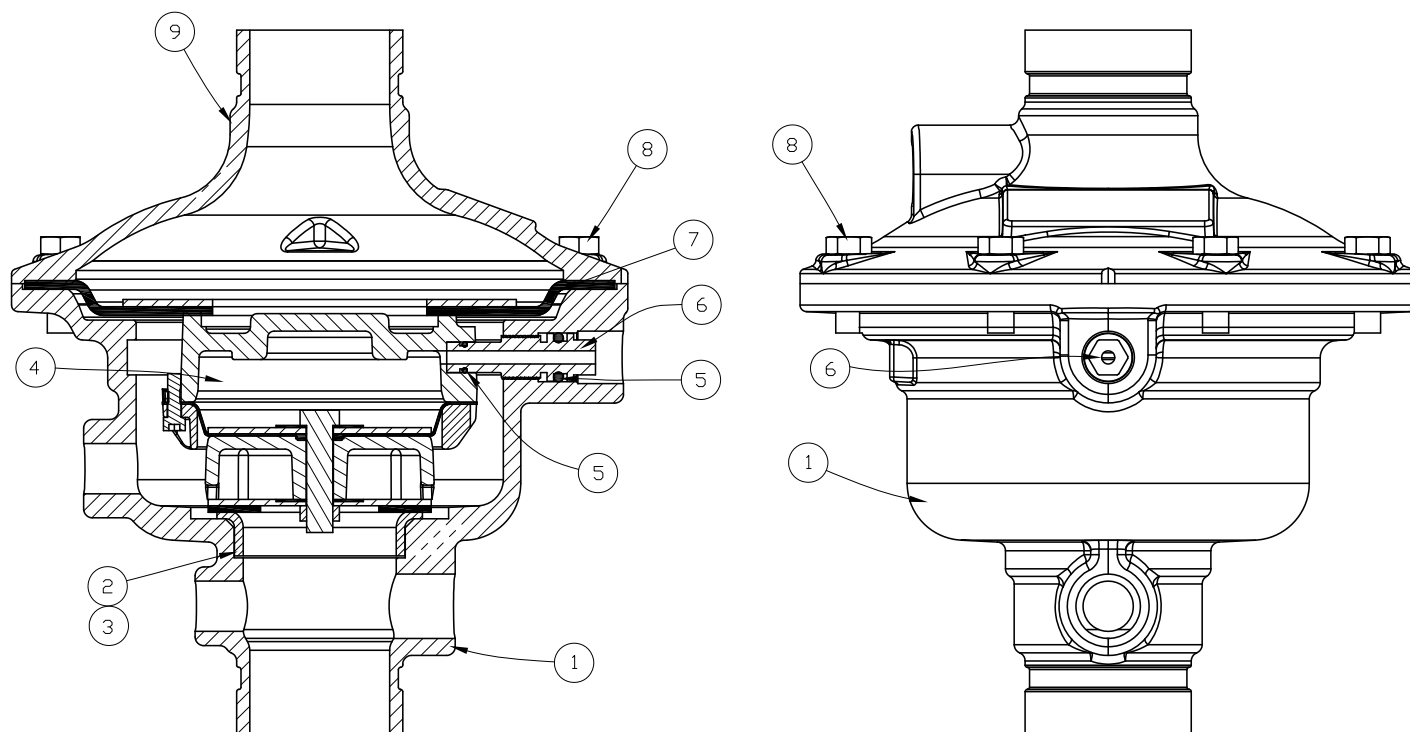

Figure 11 - Model G-2000P Valve Components List/Replacement Parts
5. Remove the 8 cover screws (8).
6. The cover (9) and trim that is still connected may now be removed from the valve body. (It may be necessary to pry the valve open as the diaphragm may bond itself to the cover (9) and body over time.)
C. Removing / Replacing the Check Diaphragm: (Refer to Figure 11)
1. The check diaphragm (7) may be lifted from the valve body (1).
2. If necessary, replace the check diaphragm (7).
D. Inspecting the Prime Chamber and Coupling for Leaks: (Refer to Figure 11)
E. Removing / Replacing the Prime Coupling: (Refer to Figure 11)
2. Using a wrench on the flats of the coupling (6), remove the coupling (6) from the valve body (1).
3. Inspect the coupling (6) and O-rings. Replace if necessary, using the instructions in O-Ring Replacement Bulletin F_120611.
F. Removing / Replacing the Prime Chamber Assembly: (Refer to Figure 11)
1. The prime chamber assembly (4) is now held in place by two flanges on the outside diameter of the assembly. Slide the prime chamber assembly (4) toward the prime line and remove from the body.
G. Re-Assembling the Valve: (Refer to Figure 11)
1. Place the prime chamber assembly (4) in the valve body (1). Make sure the two flanges are positioned in the groove.
2. Thread the prime coupling (6) into the valve body (1). Make sure the end of the prime coupling (6) is inserted into the prime chamber assembly (4).
3. Lay the check diaphragm (7) into the valve body (1).
4. Position the cover (9) onto the valve body (1), and install and tighten the cover screws (8).